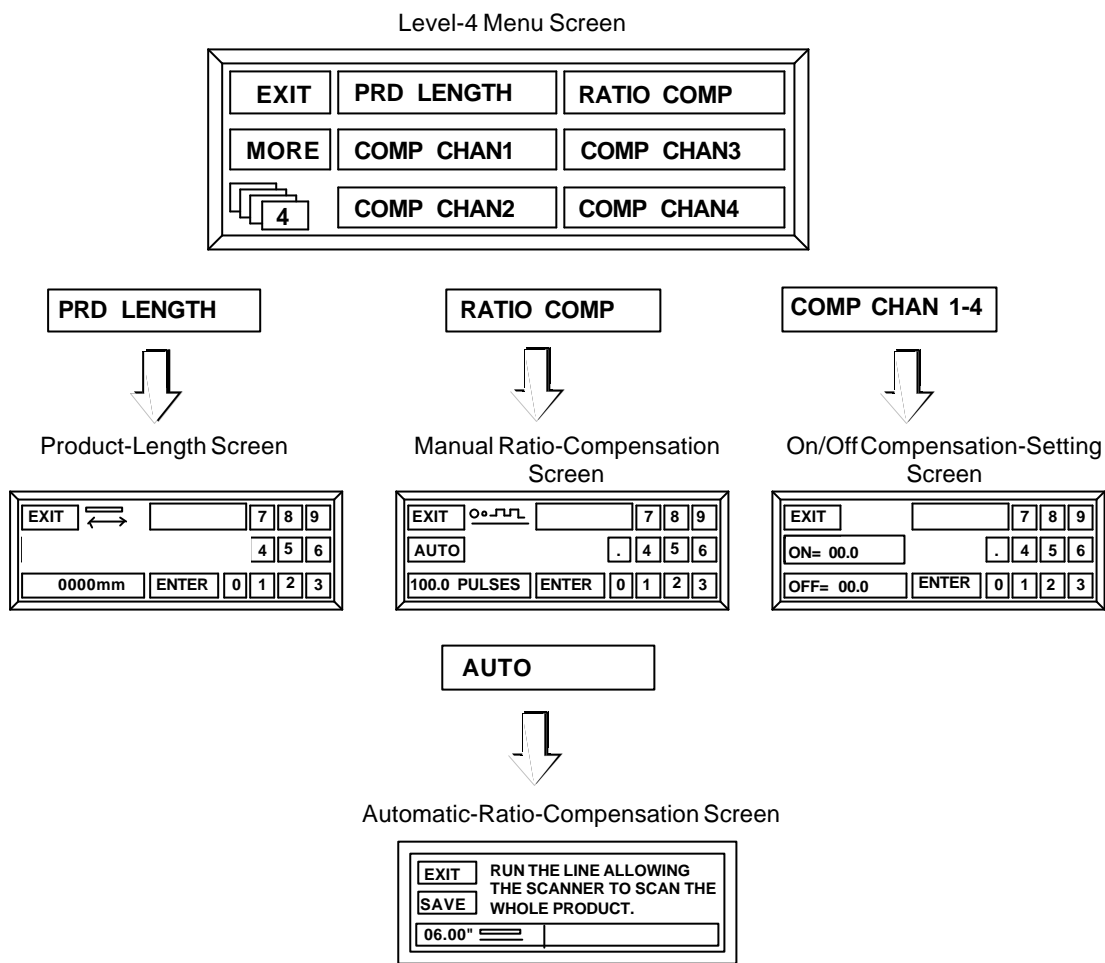

Figure 20. Level-4 Menu Screen and Associated Screens
The level-4 menu screen (Figure 20) displays when the “MORE” button on the level-3 menu screen is pressed. The small box with the numeral 4 indicates that this is the level-4 menu screen. The function of each button is as follows:
- Level-4 menu screens—Figure 20 (page 36)